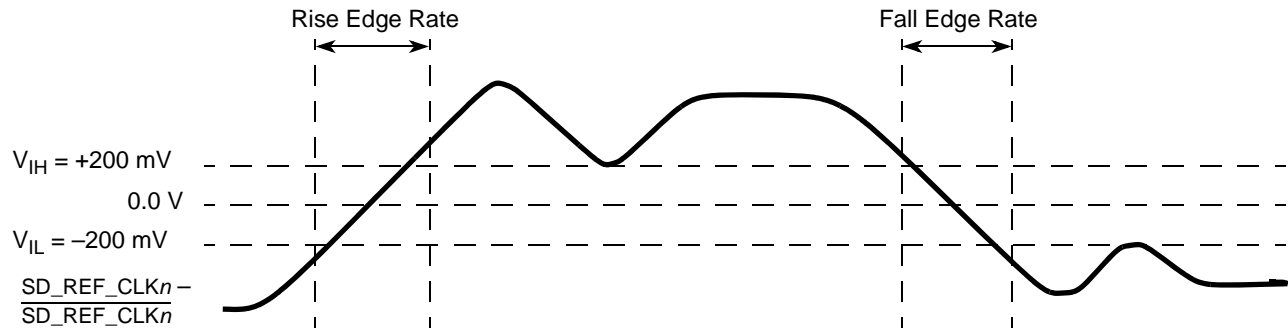

Figure 13. Differential Measurement Points for Rise and Fall Time
- Measured from –200 mV to +200 mV on the differential waveform (derived from SD\_REF\_CLKn minus  $\overline{\text{SD\_REF\_CLKn}}$ ). The signal must be monotonic through the measurement region for rise and fall time. The 400 mV measurement window is centered on the differential zero crossing. See Figure 13.